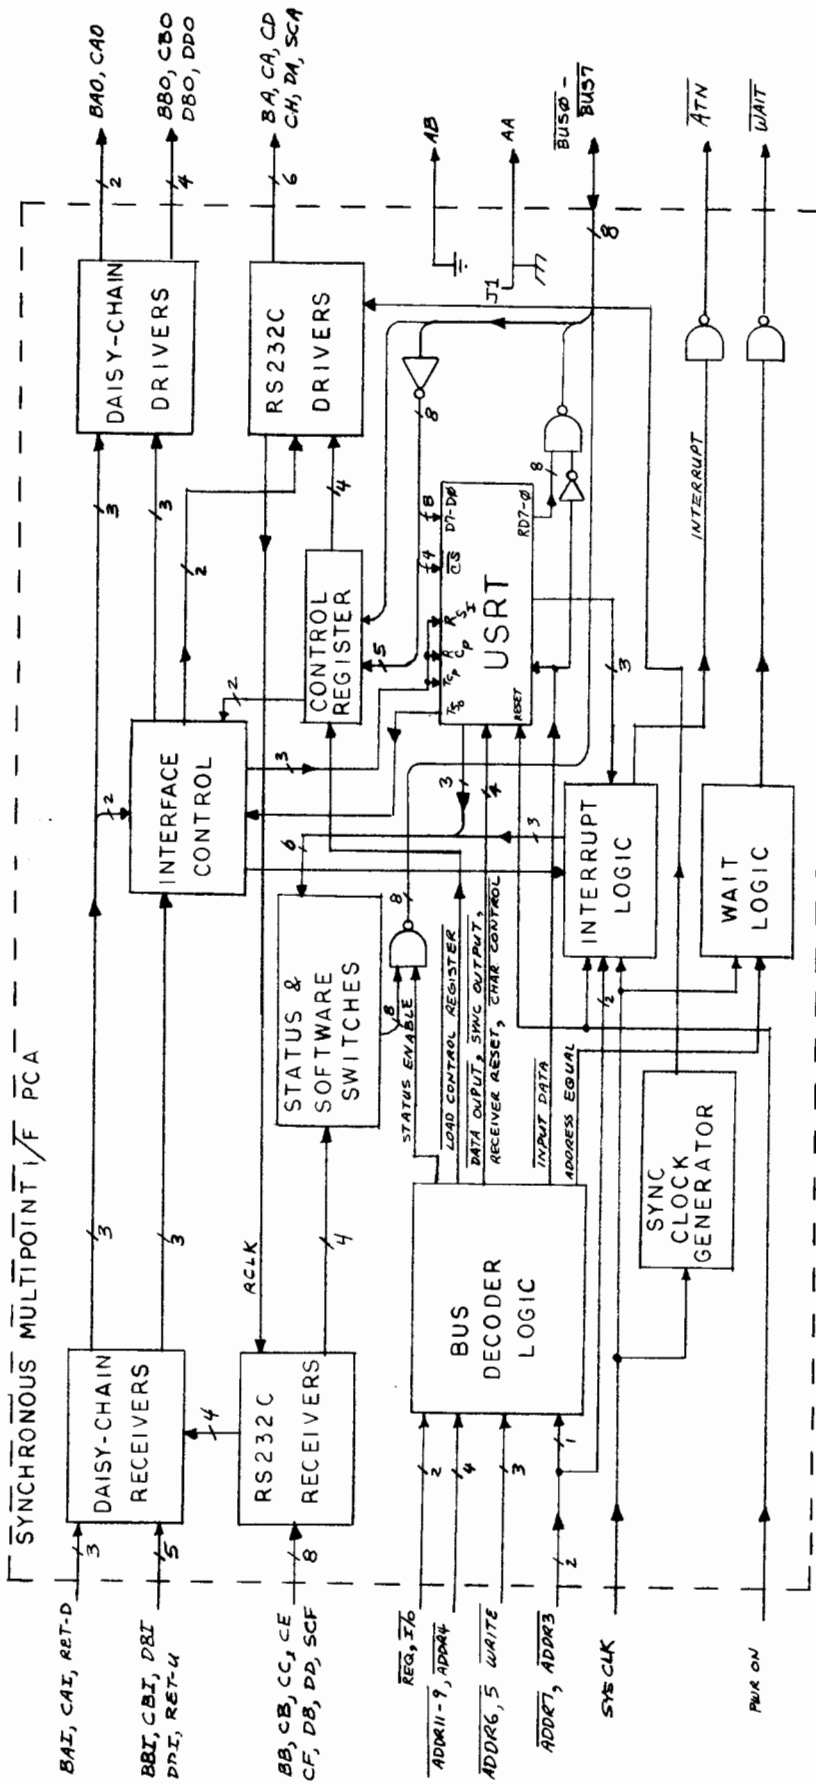

Figure 1
- 3.0 FUNCTIONAL DESCRIPTION. Refer to the block diagram (figure 1), schematic diagram (figure 2), typical daisy-chain connection (figure 3), components location diagram (figure 4), and the parts list (02640-60107) located in the appendix.